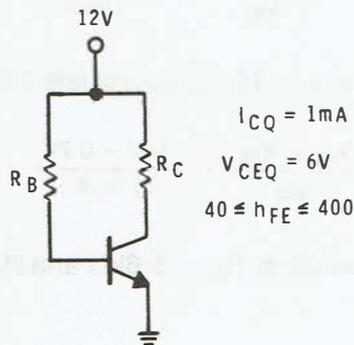

Figure E2-3
4. When a parameter varies over a wide range, circuit designers often use the geometric average of the parameter for purposes of calculation. This is defined as the square root of the product of the parameter's minimum and maximum values. Calculate the geometric average for h_{FE} in Figure E2-3.
5. Using the value of h_{FE} obtained in step 4, calculate the values required for R_C and R_B in Figure E2-3.
- Construct the circuit shown in Figure E2-3. Here, $R_C = 5.6\text{k}\Omega$ and $R_B = 1.5\text{M}\Omega$. You will use your meter to measure collector current and the oscilloscope to measure collector-to-emitter voltage.
14. Using the transistor identified in step 13, construct the base bias circuit in Figure E2-3. Here, $R_C = 5.6k\Omega$ and $R_B = 1.5M\Omega$. You will apply heat to the transistor and observe the change in V_{CE} . However, **before** you actually perform this step, be sure to read the instructions, carefully, so you will know exactly what to do.